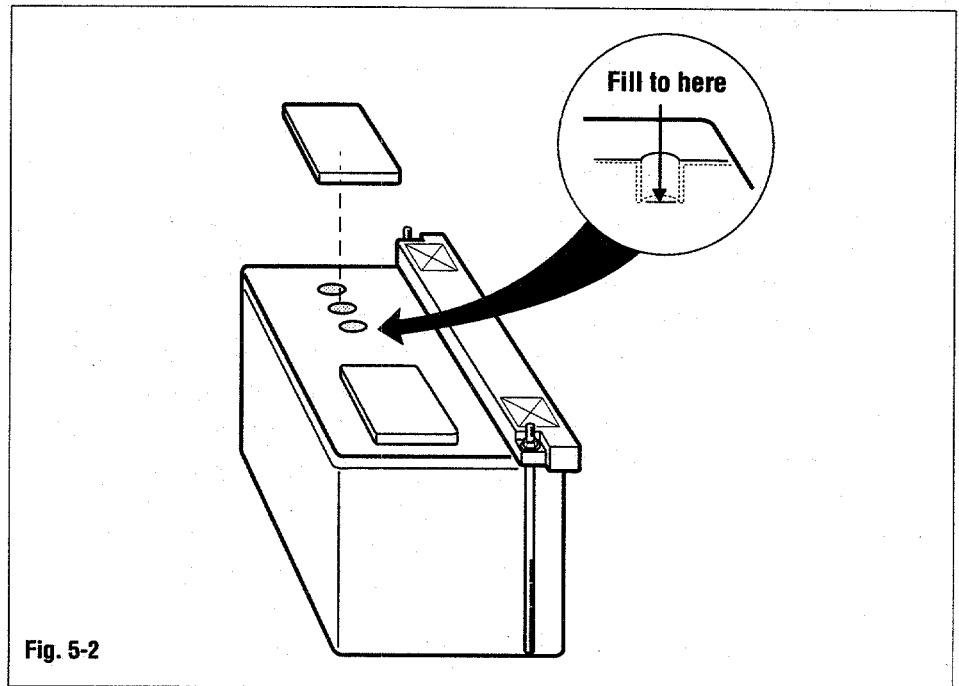

Fig. 5-2
Electrolyte level should be level with bottom edge of cell (Fig. 5-2).
- Fill each cell in battery with electrolyte as shown in Fig. 5-2. **DO NOT OVERFILL!** Read and follow instructions provided with electrolyte for proper electrolyte package handling instructions.